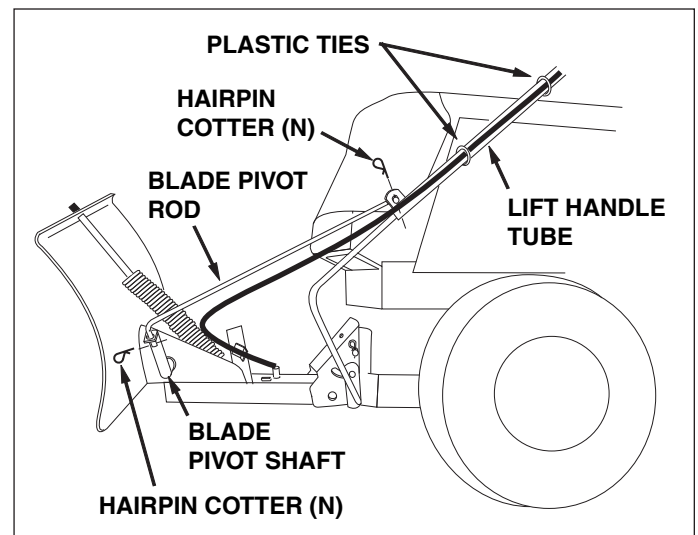

FIGURE 19 (Left Hand Side View)
36. Place the end of the blade pivot rod down through the blade pivot shaft. Attach the other end of the blade pivot rod to the lift handle tube. Secure both ends with a hairpin cotter (N). The holes for the hairpin cotters should be parallel to the ground. See figure 19.
37. Use two plastic ties to hold the cable securely to the outside of the handle tube, away from the tractor to avoid direct heat from the tractor muffler. See figure 19.
6. Remove the hairpin cotter which fastens the blade pivot rod to the blade pivot shaft. See figure 19 on page 9.